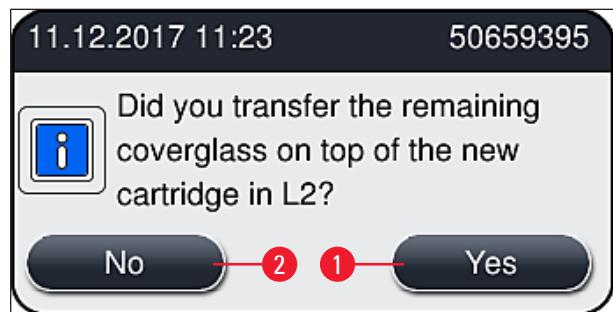

Fig. 64
8. After closing the hood, the user is questioned as to whether the remaining coverglass have been inserted into the new coverglass cartridge (→ Fig. 64). If this is the case, acknowledge the information message with Yes (→ Fig. 64-1). If no coverglass have been inserted, acknowledge the information message with No (→ Fig. 64-2).